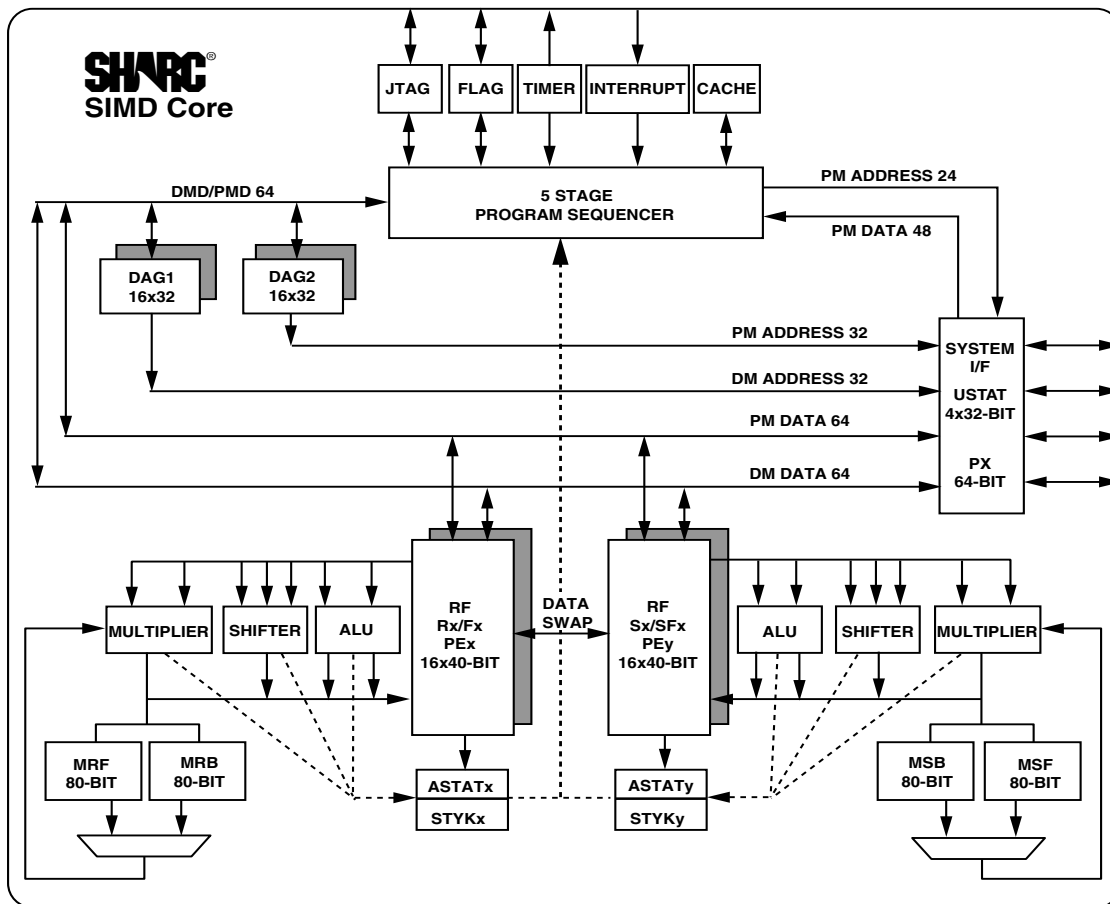

Figure 2. SHARC Core Block Diagram
The ADSP-21367/ADSP-21368/ADSP-21369 are code compatible at the assembly level with the ADSP-2126x, ADSP-21160, and ADSP-21161, and with the first generation ADSP-2106x SHARC processors. The ADSP-21367/ADSP-21368/ADSP-21369 processors share architectural features with the ADSP-2126x and ADSP-2116x SIMD SHARC processors, as shown in Figure 2 and detailed in the following sections.
The ADSP-21367/ADSP-21368/ADSP-21369 feature an enhanced Harvard architecture in which the data memory (DM) bus transfers data and the program memory (PM) bus transfers both instructions and data (see Figure 2 on Page 4). With separate program and data memory buses and on-chip instruction cache, the processors can simultaneously fetch four operands (two over each data bus) and one instruction (from the cache), all in a single cycle.